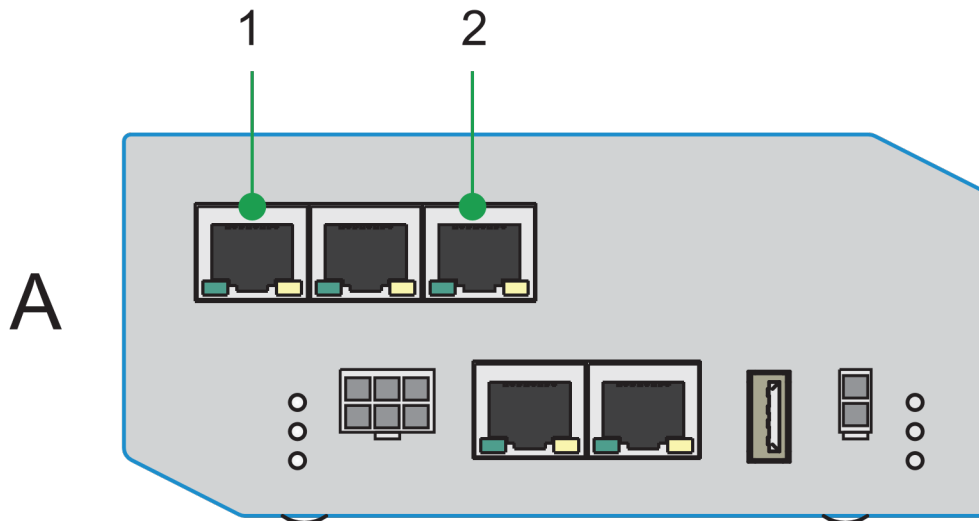

Fig. 23 Connecting the VPN-router, case A
A: Stem devices (2) and customers router (1) in the same network (refer to Fig. 23 below).